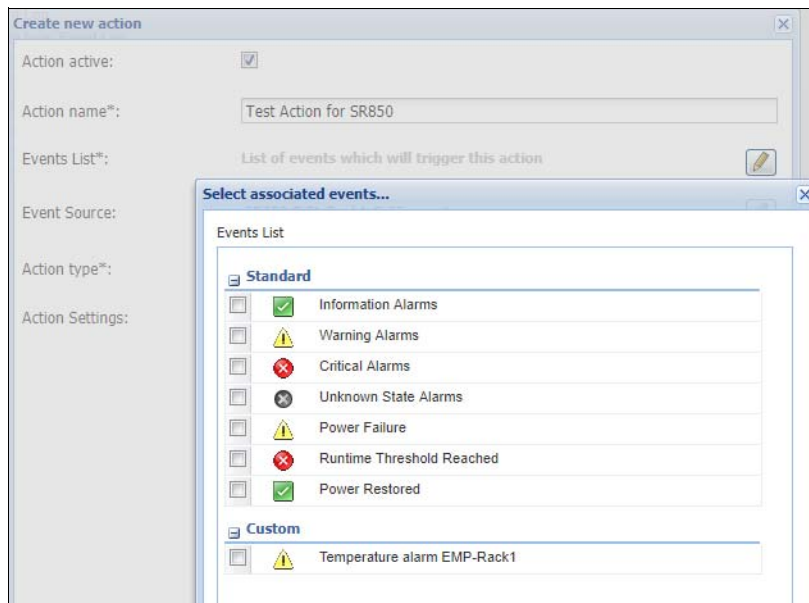

Figure 46 Standard and custom events for actions
3. Fill in the required fields, giving the action a name and clicking the Pencil icon for the Event List option. As shown in Figure 46, the event list has all of the standard event options as well as any custom events that have been created.